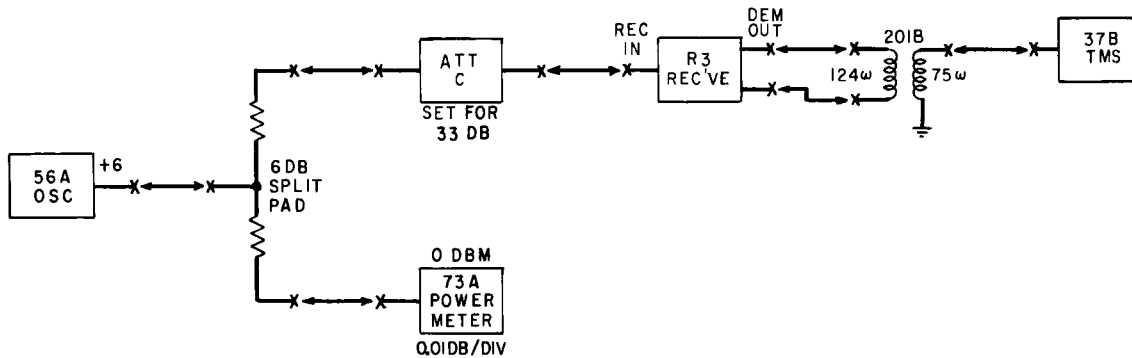

Fig. 6 - Arrangements for Carrier, Signal Balance and Terminal Level Tests
- (1) Set up test arrangement as shown in Fig. 6, but **omitting** patch cord between ATT C and the receiver input.
- (2) Tune the 37B TMS to 4.139 mc and adjust the CARR BAL control on the demodulator panel to obtain a minimum reading.
- (1) Set up test arrangement as shown in Fig. 6. Set the 56A oscillator to 4 mc.
- (2) Tune the 37B TMS to 4.278 mc and adjust the SIG BAL control on the demodulator panel for a minimum reading.